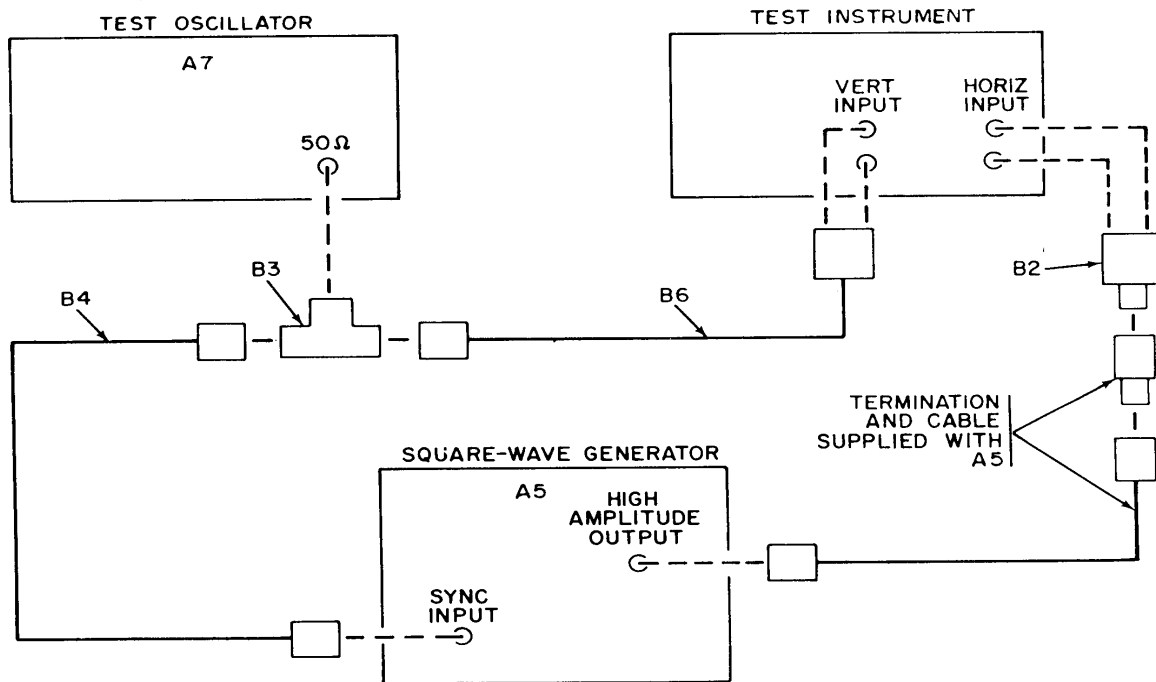

Figure 3. Horizontal amplifier compensation - equipment setup.
(2) Connect test oscillator (A7) to TI horizontal input connectors, using cable and termination (B6 and B8).
(3) Adjust test oscillator to 10 Hz and a 10-centimeter trace length. Note indication of test oscillator level meter.
(4) Maintain constant test oscillator output amplitude of (3) above, and increase test oscillator frequency until trace length is 8 centimeters. Test oscillator frequency will be at least 200 kHz.
(5) Connect equipment as shown in figure 3.
(6) Adjust square-wave generator (A5) to 50 kHz and 8 centimeters of display amplitude.
(7) Adjust test oscillator for approximately 5 kHz and stable display of 10 centimeters. Readjust test oscillator frequency for best display of square wave. If square wave with flat top and maximum of 2 percent overshoot is not displayed; perform **b**(1) below.